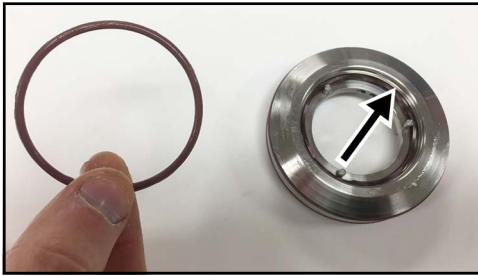

Figure 72 - Carrier-to-seal O-ring
- Lubricate the carrier-to-seal O-ring and install it in the groove on the inside of the seal carrier as shown in Figure 72.